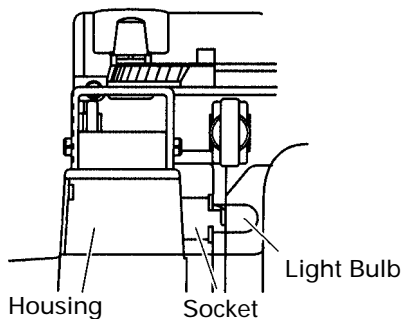

Fig. 23 (Top View)
- (3) Remove the light bulb from the socket. (Fig. 23)
- When attaching the socket to the housing, align the socket with the hole of housing while watching the back of the socket shown in Fig. 23, and insert the socket until it lightly bumps against the housing.